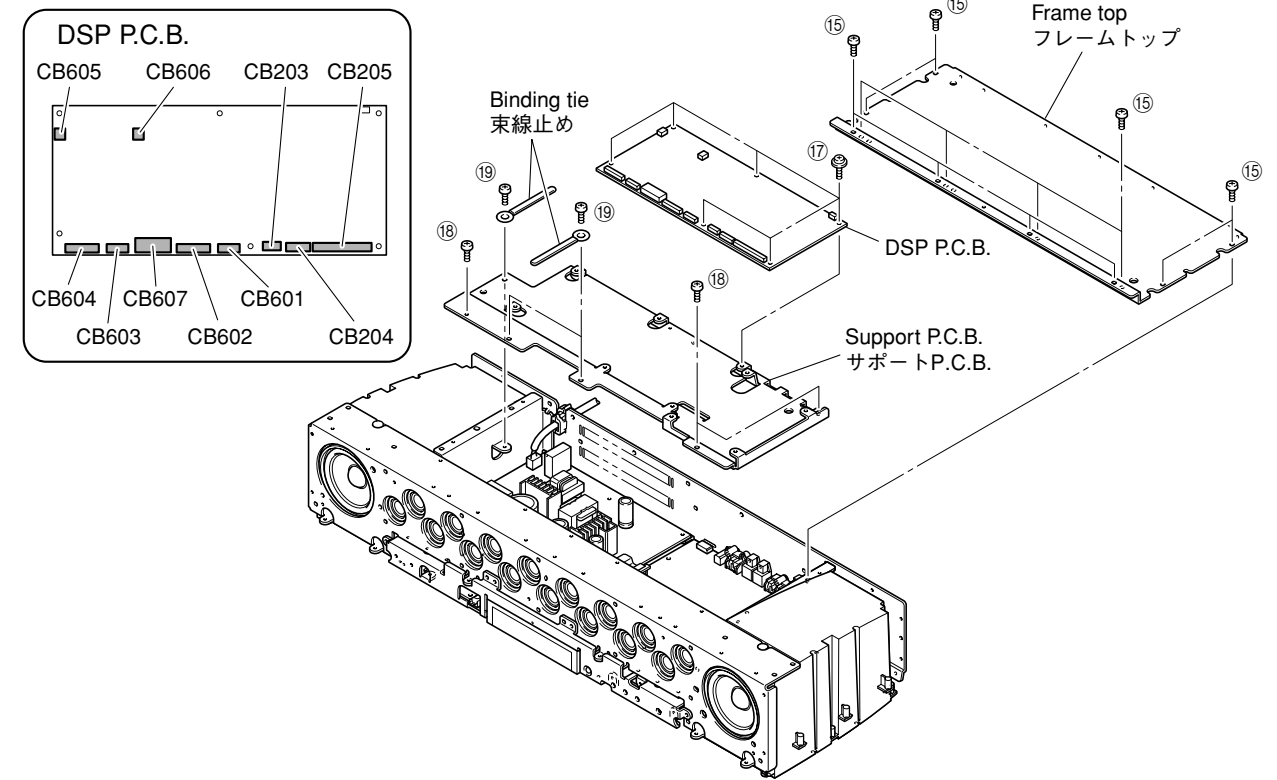

Fig. 4
- a. Remove 12 screws (15). (Fig. 4)
- c. Remove the frame top. (Fig. 4)
- d. Remove 6 screws (17). (Fig. 4)
- e. Remove CB203-205 and CB601-607. (Fig. 4)
- f. Remove the DSP P.C.B.. (Fig. 4)
- a. ⑮のネジ12本を外します。(Fig. 4)
- c. フレームトップを取り外します。(Fig. 4)
- d. ⑰のネジ6本を外します。(Fig. 4)
- e. CB203-205、CB601-607を外します。(Fig. 4)
- f. DSP P.C.B.を取り外します。(Fig. 4)
6. Removal of INPUT (1) and (2) P.C.B.s
* When replacing INPUT (1) and INPUT (2) P.C.B.s, be sure to replace them at the same time. Installing either P.C.B. of different version from the other may cause failure of operation.
- Remove 3 screws (18). (Fig. 4)
- Remove 3 screws (19) and then remove the binding tie. (Fig. 4)
- Remove the support P.C.B.. (Fig. 4)
- 18のネジ3本を外します。(Fig. 4)
- 19のネジ3本を外し、束線止めを外します。(Fig. 4)
- サポートP.C.B.を取り外します。(Fig. 4)